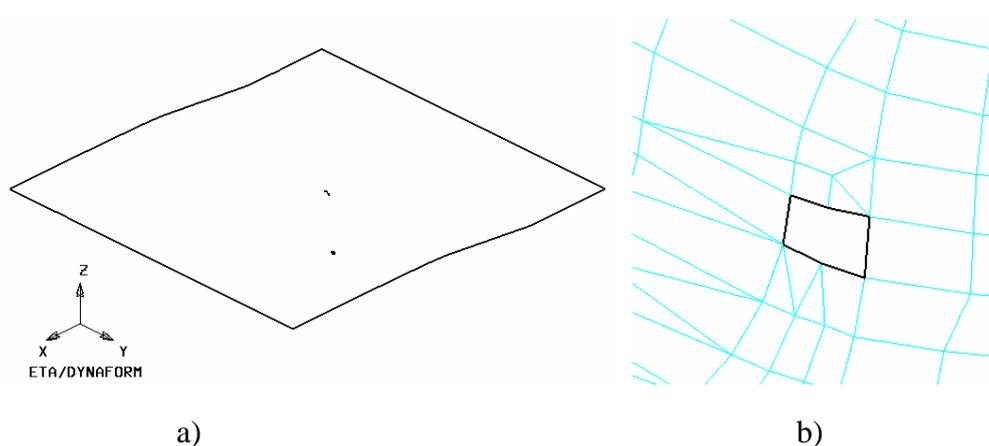

Figure 5.21 Boundary line check
2. Toggle off the checkbox of Elements and Nodes from the **Display Options** dialog at right corner of the screen (**Note**: the boundary lines are still displayed). This enables you to detect those minor gaps that might be difficult to detect when the mesh is displayed. If other white lines are also displayed, besides the boundary, you should repair the defective mesh accordingly. See Figure 5.21.